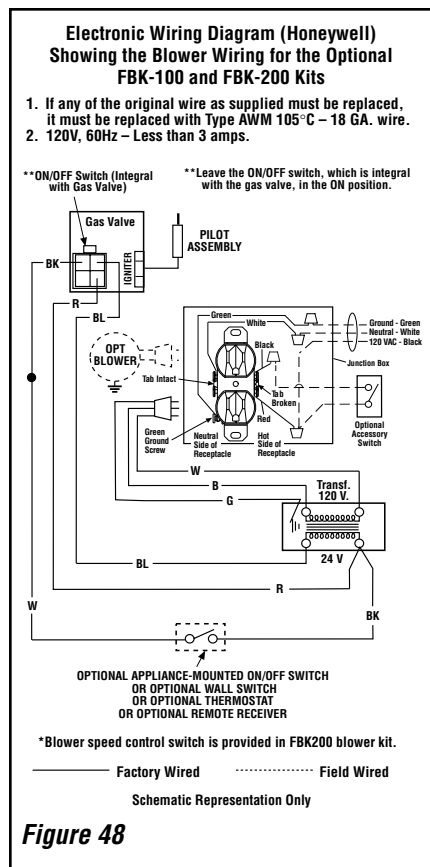

Figure 48
**B. Electronic Wiring (see Figures 48 & 49)**
4. See Figures 48 & 49. Connect the black power supply wire to the lower outlet's red pigtail lead.
7. If an optional control is to be used, wire it in the low voltage circuit as shown in **Figures 48 and 49**.
**Note:** The gas valve-mounted ON/OFF switch is shown in **Figures 48 and 49**. It is integral with the gas valve and should be set to the ON position.
*(See Figure 48 on page 25) -*